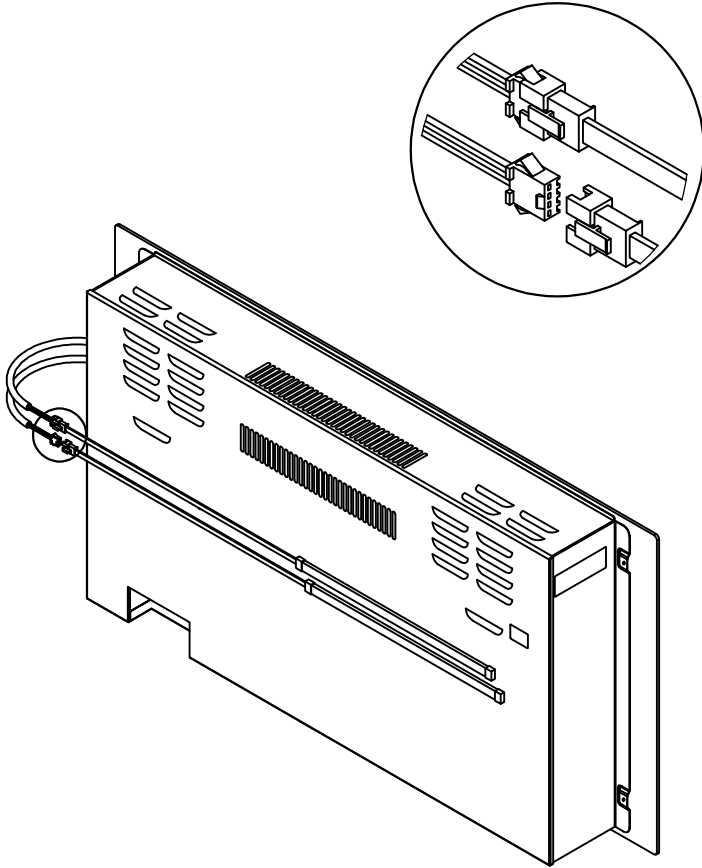

Fig.5
- Connect the LED lights with the power cables.(Fig.5)